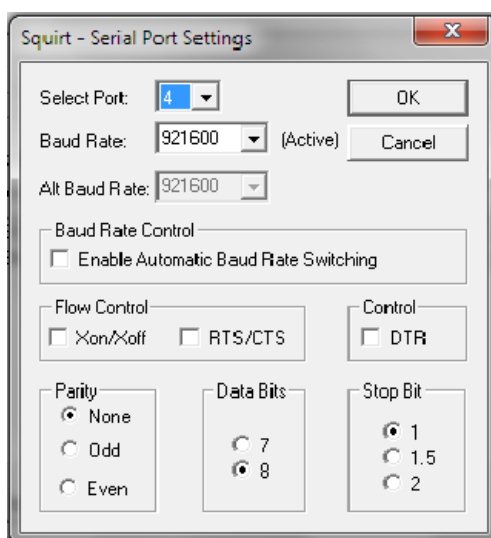

Figure 12. Squirt – Serial Port Settings
4. To verify or change the port settings, click the Setup button. The Squirt – Serial Port Settings dialog box displays (see Figure 12).